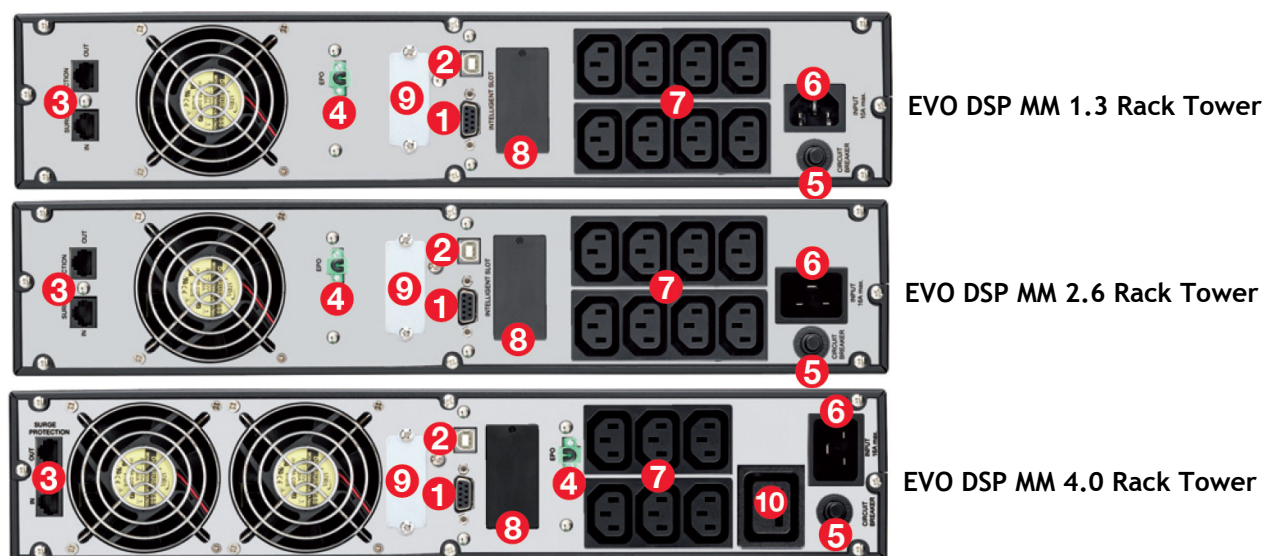

Figure 4 - Rear Side
1. Through the included power cable connect the UPS Input socket to the AC line outlet (see figure 4). It is **mandatory to ground the AC line outlet according to the Safety Standards**. Carefully check the grounding of AC line outlet.
- 3.1. Remove the metal cover (#9) on the rear side (see figure 4) to access to the Battery Box Connector.